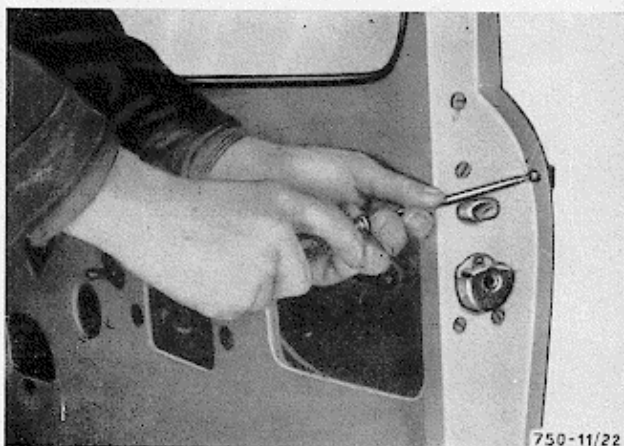

Fig. 21 - Removing the rear screw securing the external handle of a front door
- draw off the lock after first removing the rod **3** (Fig. 21) which connects the lock to the internal operating handle.